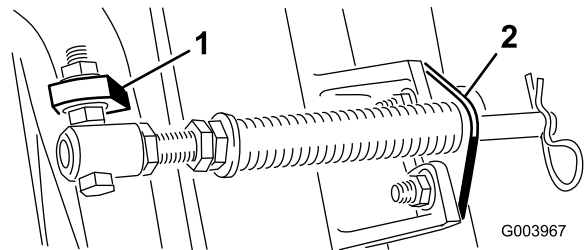

Figure 6
C. Mount the spring tube bolt to the opposite tab on the carrier frame and secure with the flange nut. The bolt head is to be positioned to the outer side of the tab as shown in Figure 6.
D. Mount the rod bracket to the cutting unit tabs with the carriage bolts and nuts (Figure 6).